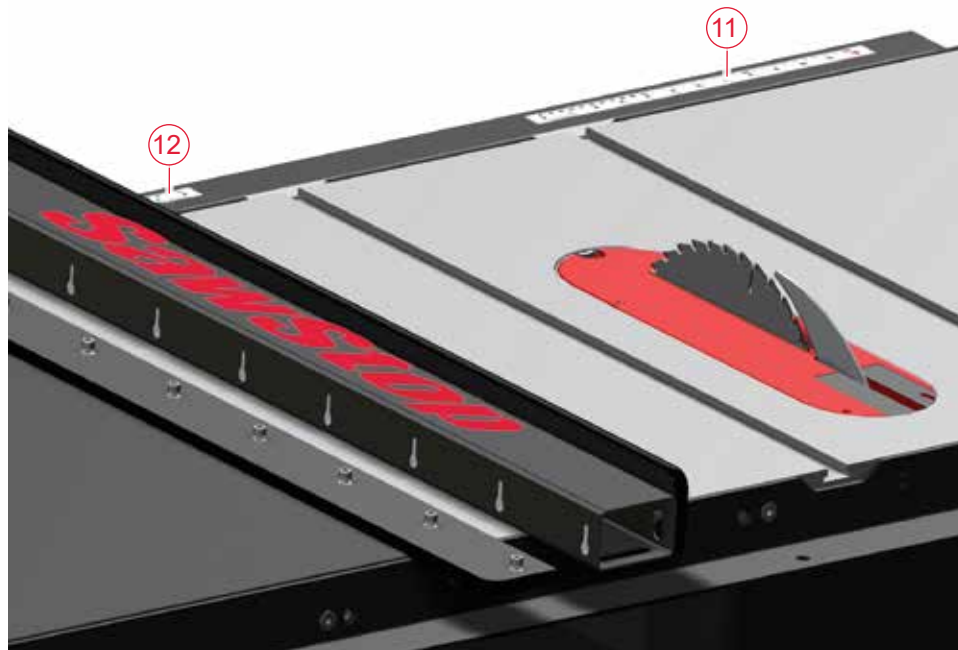

Fig. 35
**Table Clearance:** The final step is to set the spacing between the bottom of each face plate and the table. The face plates are held in place by a series of screws threaded into nuts embedded in the face plates. The heads of the screws fit into key-hole slots in the sides of the fence (Fig. 35).